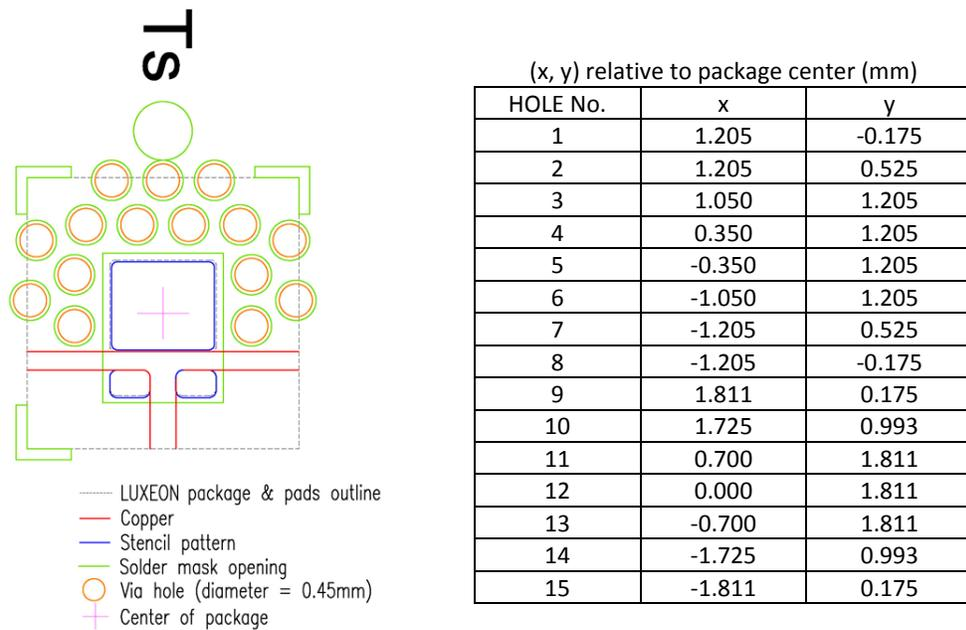
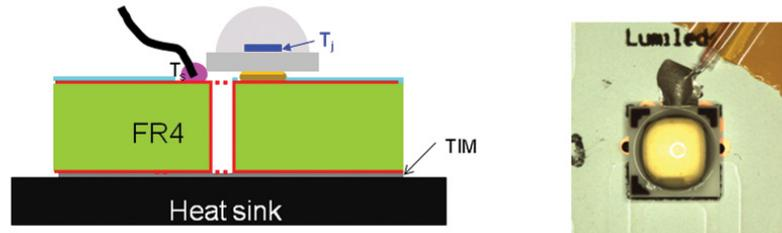

Figure 6. FR4 PCB design with 15 open PTH vias.
Figure 7. Schematic cross section (left) and top view (right) of a LUXEON emitter on an FR4 PCB with open PTH vias.
The thermal conductivity between the top and bottom layers of the PCB was measured for the PCB design in Figure 6. The design contains 15 thermal vias and yields a thermal resistance of approximately 9K/W between the thermal pad of the LUXEON emitter and the bottom of the PCB. Placing additional thermal vias around the LUXEON emitter does not provide a substantial reduction in the overall thermal resistance.
In typical applications it may be difficult, though, to measure the thermal pad temperature $T_{\text{thermal pad}}$ directly. Therefore, a practical way to determine the junction temperature for the LUXEON emitter is by measuring the temperature T_s of a predetermined sensor pad on the PCB right next to the LUXEON emitter with a thermocouple. The recommended location of the sensor pad is right next to the LUXEON emitter, on the center line between anode and cathode, as shown in Figure 6 and Figure 7. To ensure accurate readings, the thermocouple must make direct contact with the copper of the PCB onto which the thermal pad of the LUXEON emitter is soldered, i.e. any solder mask must first be removed before mounting the thermocouple onto the PCB.
The thermal resistance $R\theta_{j-s}$ between the sensor pad and the junction of the LUXEON emitter was experimentally determined to be approximately 9K/W for the FR4 PCB design shown in Figure 6. The junction temperature can then be calculated as follows:
1. Ensure that small L-shaped alignment markers, which define the desired location of the LUXEON package outline, are included in the PCB design, as shown in Figure 6 and Figure 14. It is preferable to define those markers with openings in the solder mask rather than silk screening them on top of the solder mask. If the ink height is too thick and too close to the solder mask opening, it may interfere with the stencil paste printing quality.